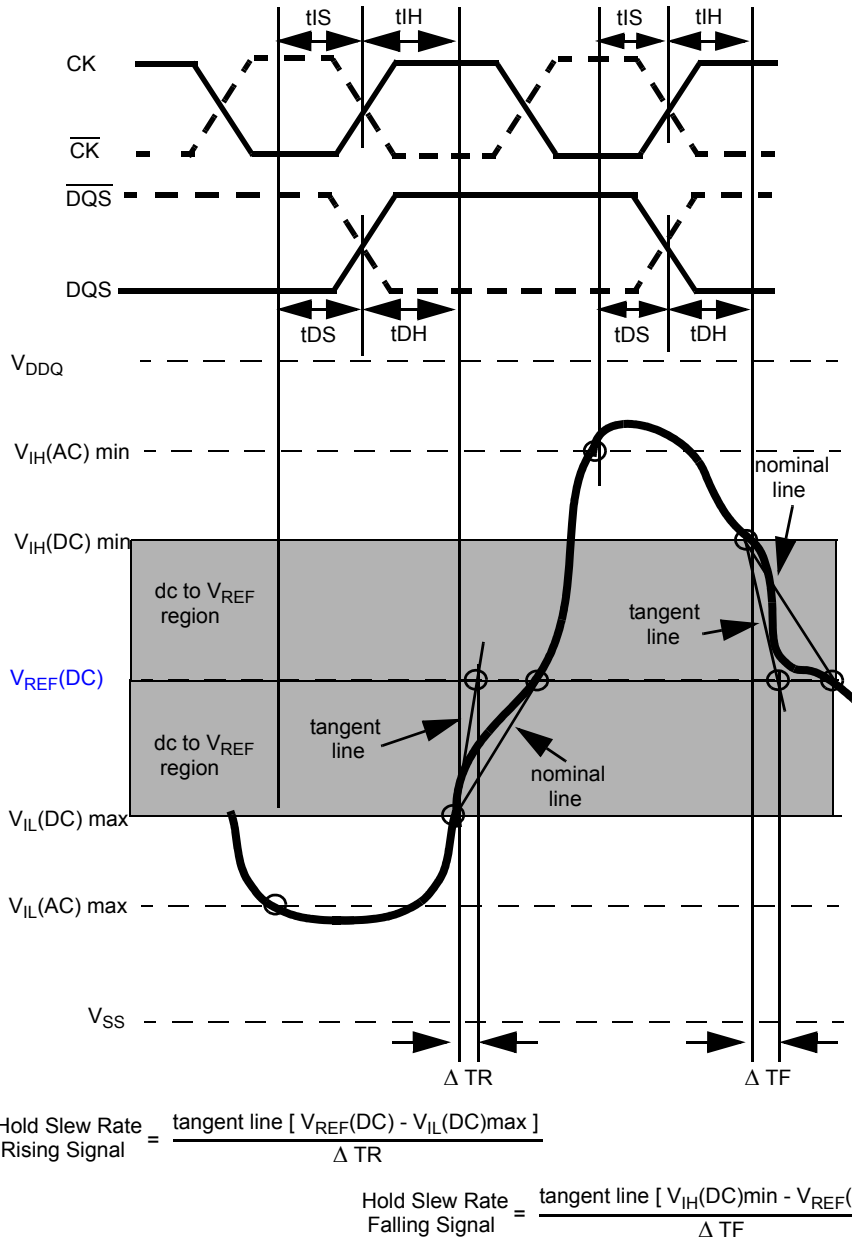

Figure 28. Illustration of tangent line for hold time t_{DH} (for DQ with respect to strobe) and t_{IH} (for ADD/CMD with respect to clock)
Hold (tDH) nominal slew rate for a rising signal is defined as the slew rate between the last crossing of VIL(DC)max and the first crossing of VREF(DC). Hold (tDH) nominal slew rate for a falling signal is defined as the slew rate between the last crossing of VIH(DC)min and the first crossing of VREF(DC) (see Figure). If the actual signal is always later than the nominal slew rate line between shaded 'dc level to VREF(DC) region', use nominal slew rate for derating value. If the actual signal is earlier than the nominal slew rate line anywhere between shaded 'dc to VREF(DC) region', the slew rate of a tangent line to the actual signal from the dc level to VREF(DC) level is used for derating value (see Figure 28).